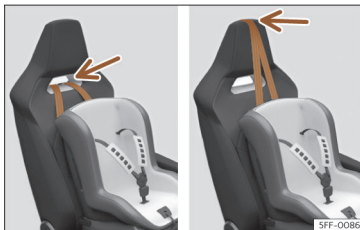
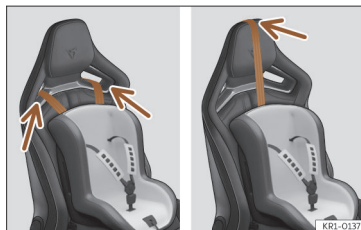

Fig. 47 Front passenger seat: adjustment and assembly according to the Top Tether belt.
Fig. 48 Front passenger seat: adjustment and assembly according to the Top Tether belt.
- For vehicles with integrated headrests, pass the Top Tether belt over the headrest or through the headrest recess as shown in the image >>> **Fig. 47**, >>> **Fig. 48**.